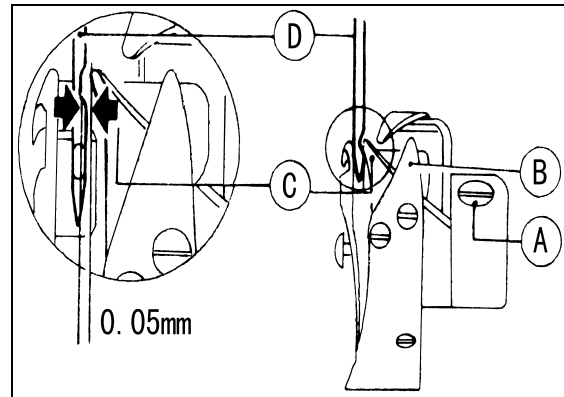

Fig. 19
When adjusting the hook point timing, also notice that the clearance between the bottom of needle notch and Hook Point (C) should be approx. 0.05mm (See Fig.19)